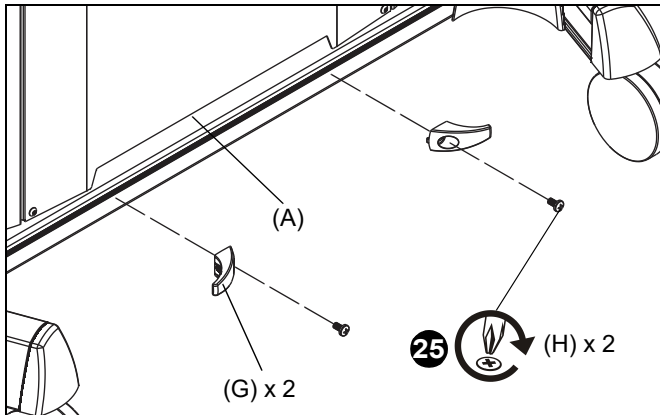

Figure 13
25. Use two 1/4-20 x 1/2" Phillips pan machine screws (H) to attach two cable hooks (G) to bottom of column assembly (A). (See Figure 13)